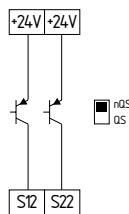

Fig. 13
**Dual-channel control of a safety-related electronic (microprocessor-based) safety guard with p-type transistor outputs e.g. AOPD's to EN IEC 61496 (see Fig. 13)**